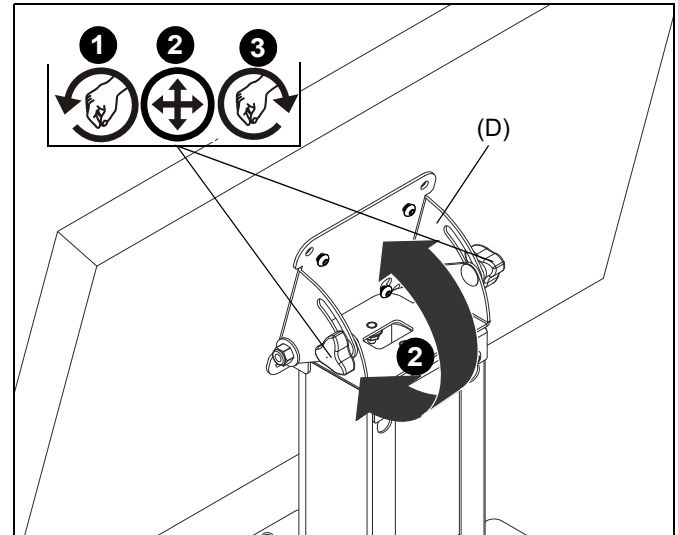

Figure 7
1. Loosen tilt adjustment knobs on VESA adapter (D) by turning them counter-clockwise. (See Figure 7)
2. Tilt to desired position. (See Figure 7)
3. Tighten tilt adjustment knobs on VESA adapter (D) by turning them clockwise. (See Figure 7)